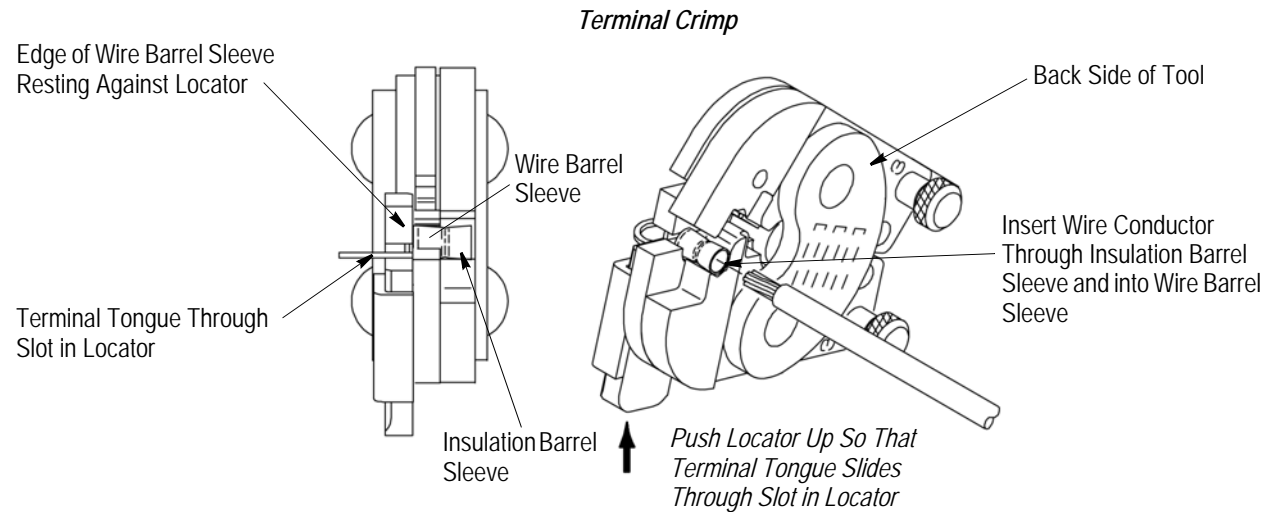

Figure 3
3. Push the locator up and, from the FRONT side of the tool, insert the terminal or splice wire barrel sleeve into the crimping jaws making sure that the edge of the wire barrel sleeve rests against the locator. See Figure 3 and Figure 4.
5. Insert wire conductor through the insulation barrel sleeve and into the wire barrel sleeve until it is flush with the outer edge of the wire barrel sleeve. See Figure 3 and Figure 4.